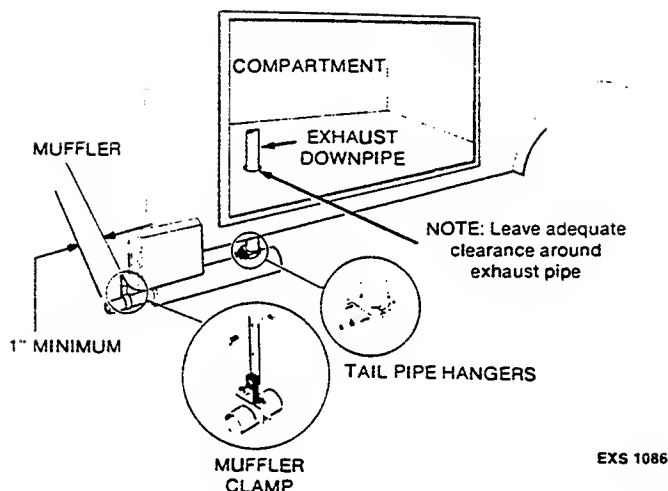

FIGURE 18. TYPICAL EXHAUST SYSTEM INSTALLATION
1. Where the exhaust system passes through the base or floor, leave adequate clearance as protection against exhaust pipe damage from vibration (Figure 18). The metal around the hole should be turned up or some type of collar used to prevent gas or oil from draining onto hot exhaust parts.
- Attach the inlet of the muffler to the downpipe using a 1-5/8 inch automotive type U-bolt clamp **ONLY** (Figure 18) and tighten securely. If downpipe must be shortened, cut two 1/2 inch slots in the end of the downpipe after shortening.
- Attach the tailpipe to the outlet end of the muffler and provide support using a shock mounted support hanger with clamp (see Figure 18).